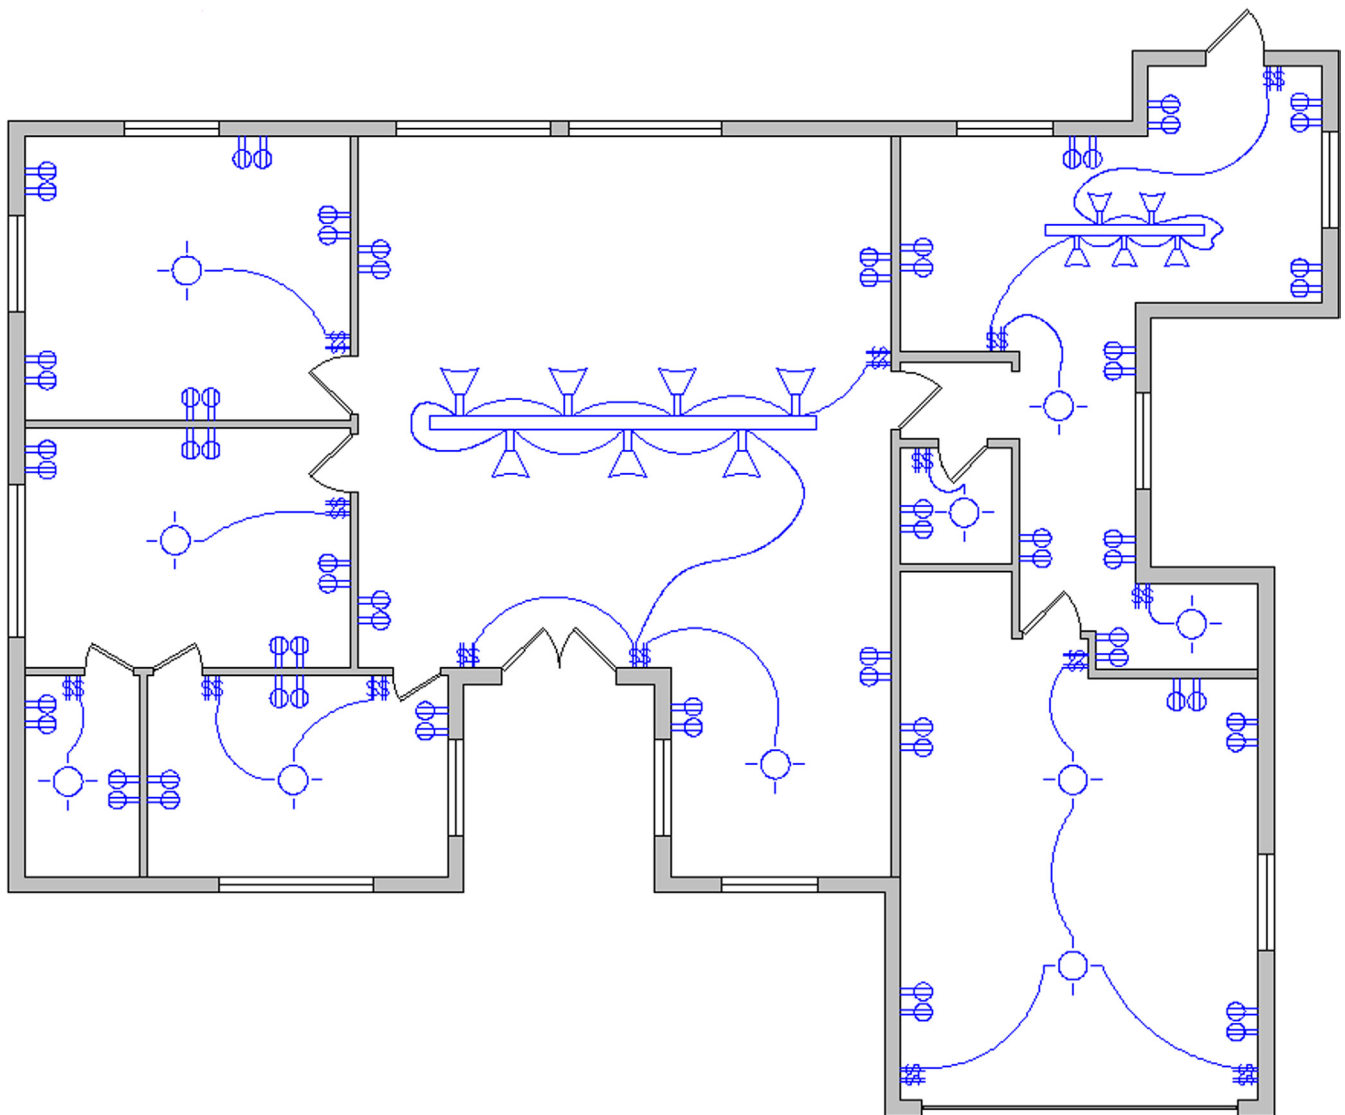

FIGURE 14.46
Step 3. Lay out the electrical symbols as seen in the floor plan in Figure 14.46. Some of the wiring runs are splines, and some are arcs.